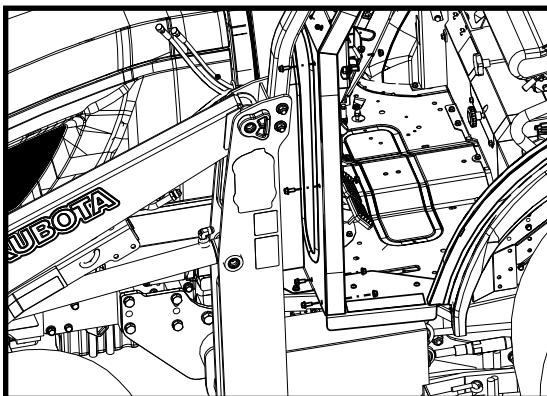

Figure 5.9: Side Frame to Cowl Bolts
- 5.9 Fasten the side frame to the cowl (see Figure 5.9). Leave hardware loose.